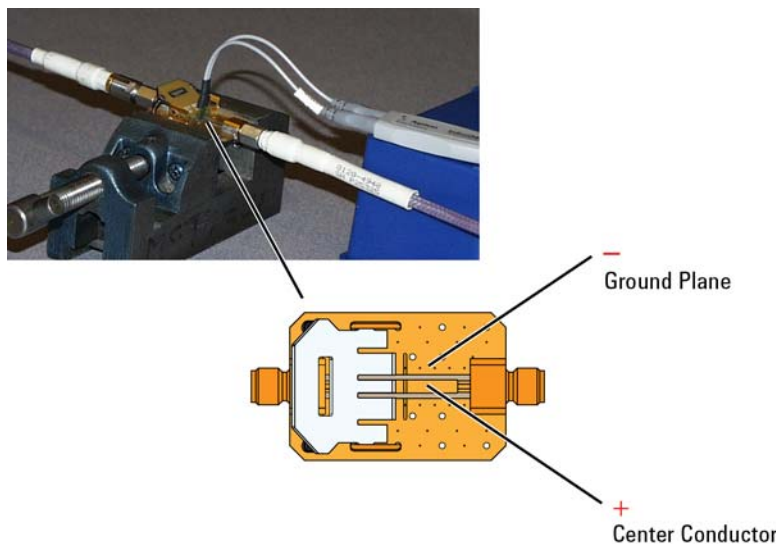

Figure 172 Probing Locations on PV Fixture
- 32 Position the probe conveniently to make quality connections on the PV/DS board as shown in Figure 172.